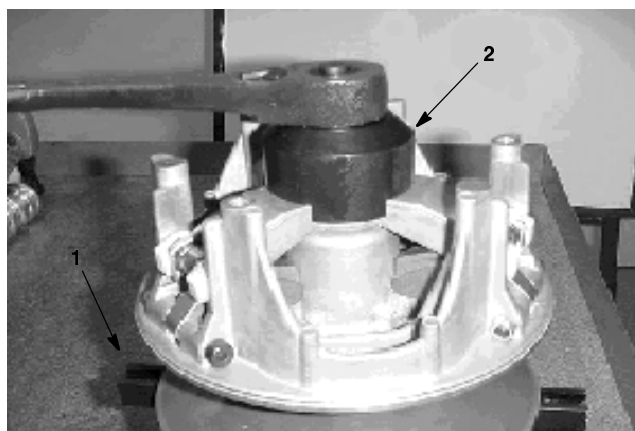

Figure 8
3. Use two 1/4-20 X 1" cap screws to secure the spider removal holding bar (TOR4098: see Special Tools) to drive clutch (Fig. 8).
6. Using spider removal spanner tool (TOR4098: see Special Tools), remove spider from the fixed sheave post (Fig. 8).